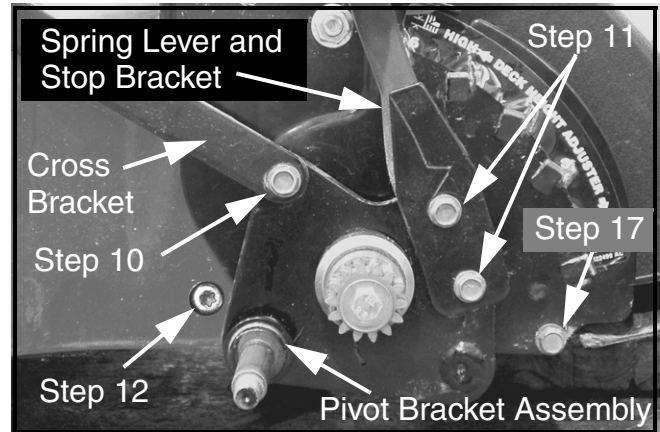

FIGURE 4
10. Using a 3/8" socket and ratchet, remove the self-tapping screw, spacer and wave washer (if so equipped) securing the cross bracket to the pivot bracket assembly. See Figure 4.
11. Using a 3/8" socket and ratchet, remove the two self-tapping screws securing the height adjuster spring lever and stop bracket. See Figure 4.
12. Using a T-30 Torx bit and ratchet, remove the two Hi-Lo screws securing the main baffle to the deck. See Figure 4.
17. Using a 3/8" socket and ratchet, remove and discard the two special screws that secure the trail shield to the handle brackets. Discard the trail shield. See Figure 4.
50. Re-install the two Hi-Lo screws, removed in Step 12, to secure the main baffle to the deck at the handle brackets. See Figure 4.